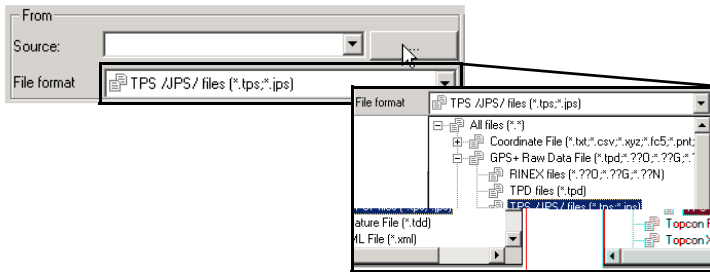

Figure E-23. Select Raw Data File Format
- In the *From* panel, select the *File format* of the raw data file (Figure E-23).